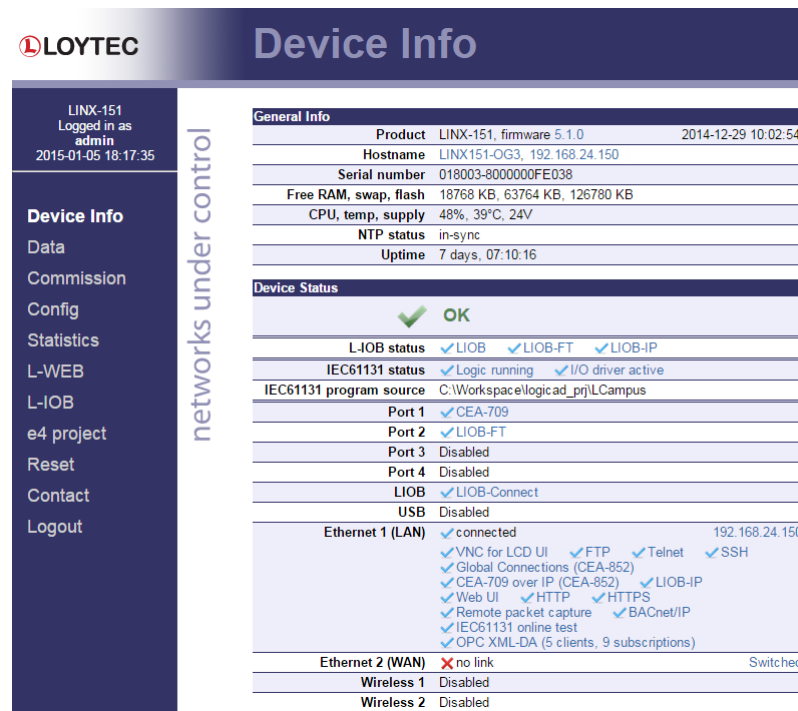

Figure 14: Device Information Page.
5. The device information page should appear as shown in Figure 14.